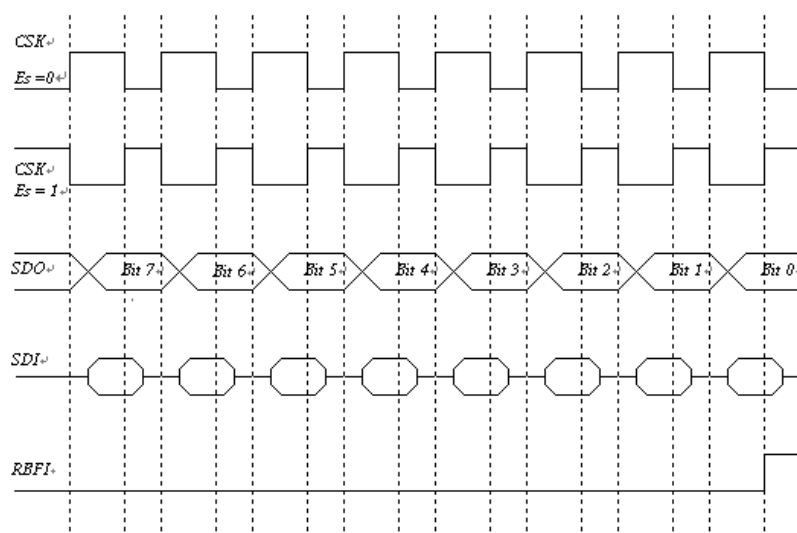
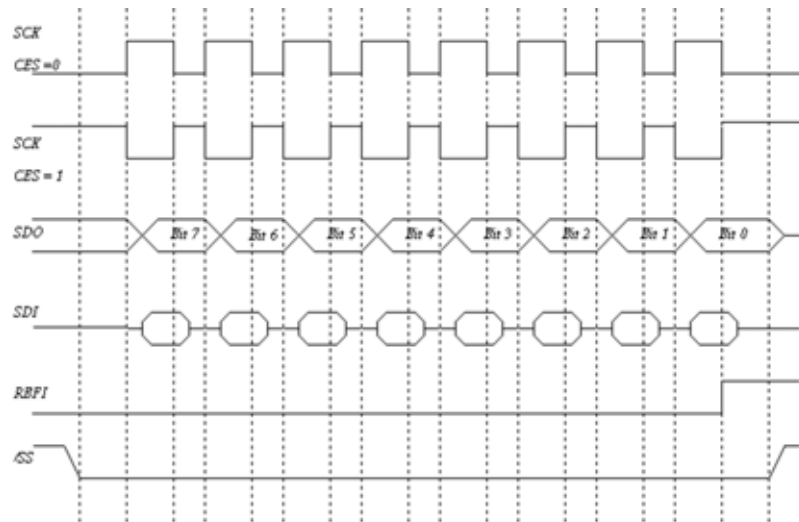

Fig. 13 SPI Mode with /SS Disable
Fig. 14 SPI Mode with /SS Enable
- Timing is shown in Fig.13 and14.
- Timing is shown in Fig.13 and 14.
- Timing is show in Fig.13 and 14
- Timing is shown in Fig.13 and Fig. 14.
The edge of SCK is selected by programming bit CES. The waveform shown in Fig.13 is applicable regardless of whether the EM78P451 is under master or slave mode with /SS disabled. However, The waveform in Fig. 14 can only be implemented in slave mode with /SS enabled.